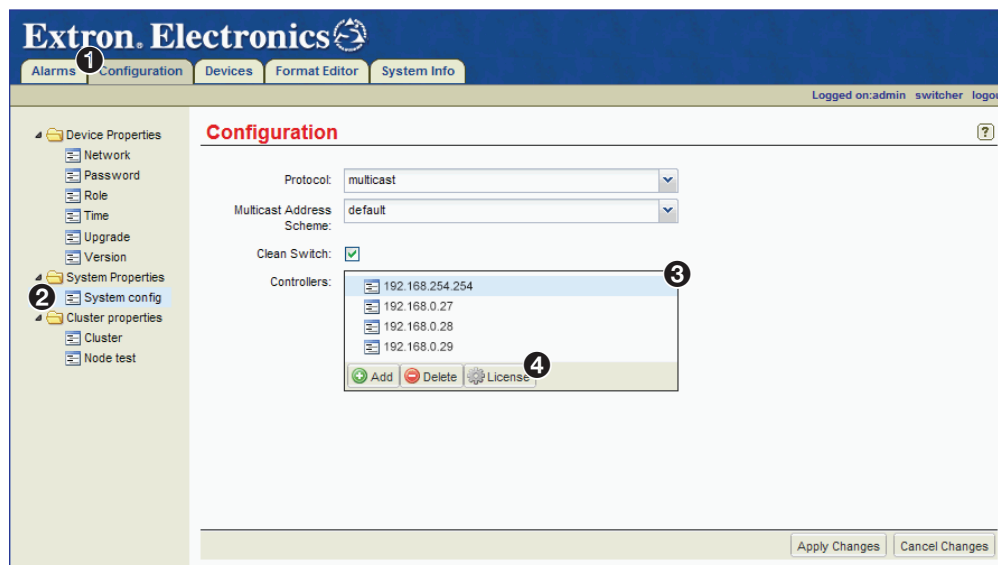

Figure 163. Configuration Page — Updating the Controller License
1. Click the **Configuration** tab to open the page (see figure 163, ❶).